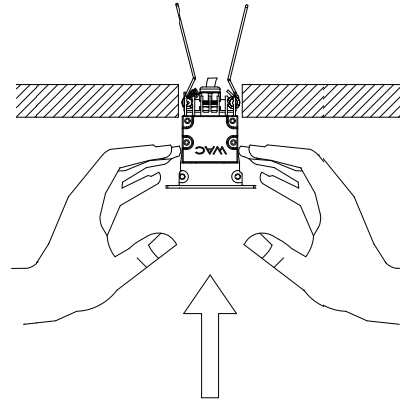

Figure 4
4. After connecting the wires, first insert the driver or junction box into the interior of the ceiling through the ceiling opening; Then twist the springs at both ends by hand and install the lamp into the ceiling opening.(As shown in Figure 4).